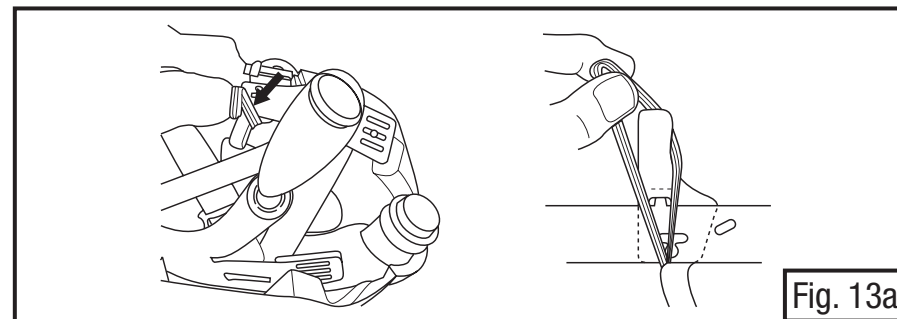

Fig. 13a
- With the visor frame in the down (closed) position, remove plastic face seal tab from “T” attachment points on headband (Fig. 13a & b).
- Grasp elastic loop on face seal and pull up over suspension headband and attach to the plastic tab (Fig. 13a).